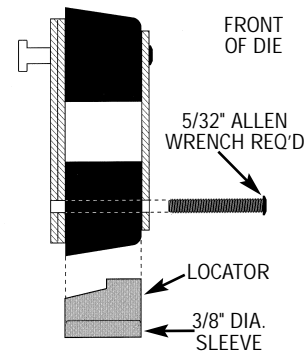

Figure 1.
2. Slide the locator over the 3/8-inch diameter sleeve, and re-install as shown in figure 1.